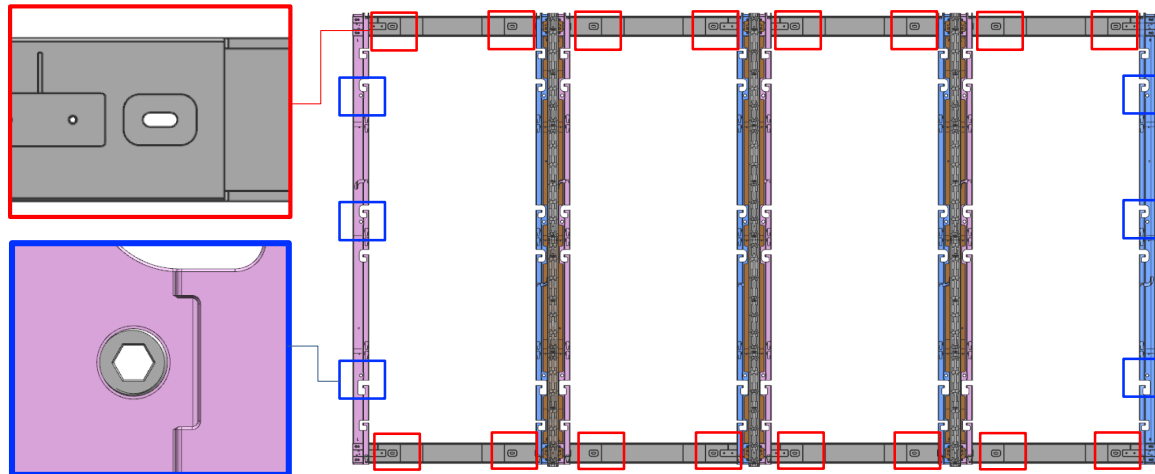

Fig.2 Frame + Fixed point of structure
3. Install the frame kit fixed to the stand-type structure. (Manufactured by installer (SI))
- Refer the figure below for the fixed point between FRAME and the structure. (based on 4x4). (Fig.2)